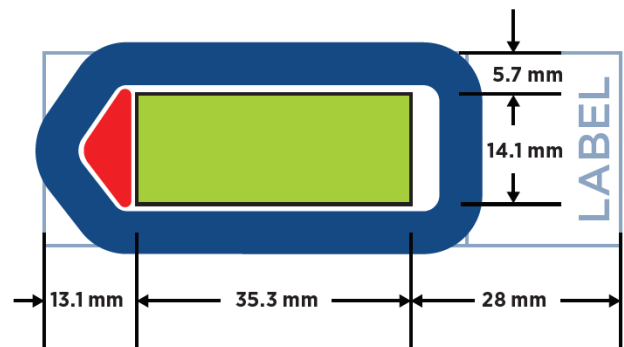

Figure 11: Slide dimensions
- Tissue sections must be placed in the **Scan Area** (shown in green) (see Figure 11) in the center of the slide and be **no larger than 35.3 mm long by 14.1 mm wide**. They should not overlap the slide gasket (shown in blue) or the Tip Calibration area (shown in red). If mounting multiple sections per slide, ensure that tissues are at least 2–3 mm apart and still fit within the Scan Area.